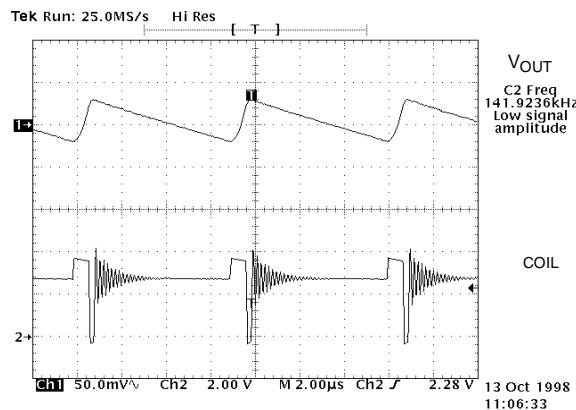

FIGURE 5. Buck DB PSM Mode: $V_{IN} = 3.6$ V, $V_{OUT} = 2.7$ V,
5. To test your DB in PSM, adjust the load to 20 mA. Then change Jumper 2 setting to PSM. Notice the reduction of the input current. With the same probe setup mentioned above, the waveform for buck and boost DB should appear approximately as shown in Figure 5 and 6, respectively.